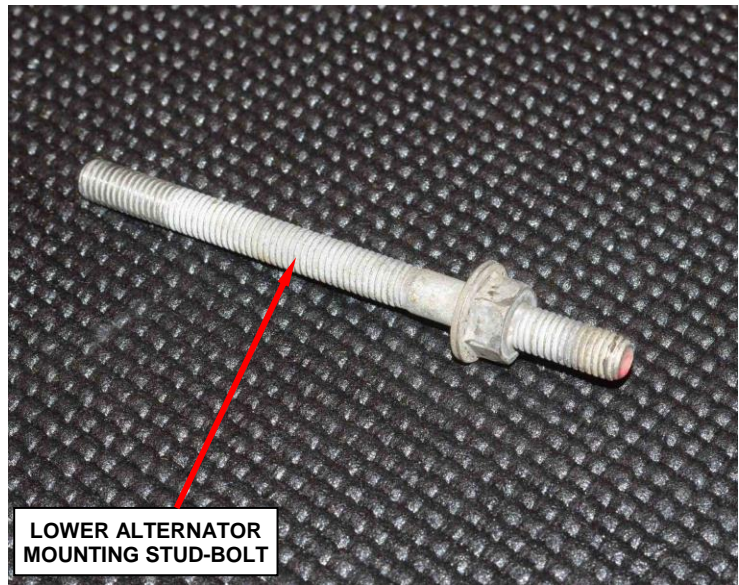

Figure 8 – Lower Alternator Mounting Stud-Bolt
9. Remove and save the lower alternator mounting stud-bolt (Figure 8).